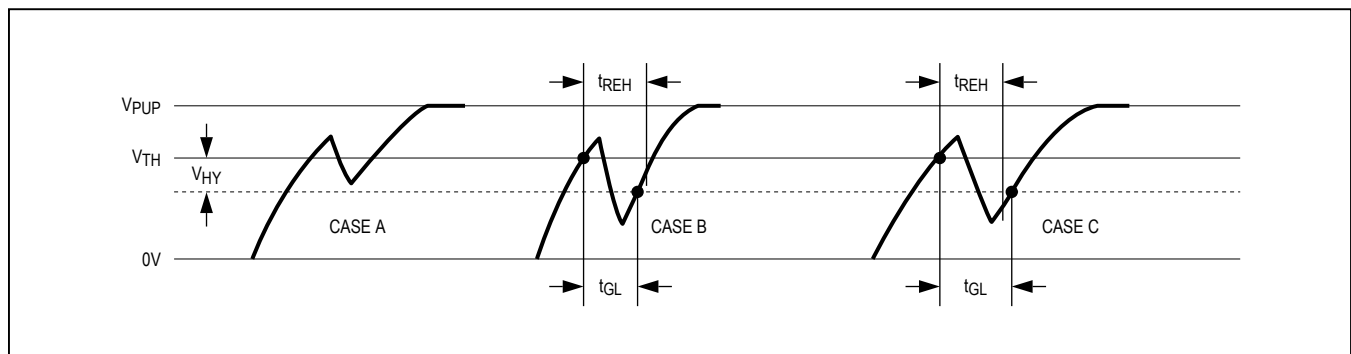

Figure 12. Noise Suppression Scheme
- 2) There is a hysteresis at the low-to-high switching threshold V_{TH} . If a negative glitch crosses V_{TH} but does not go below $V_{TH} - V_{HY}$, it is not recognized (Figure 12, Case A). The hysteresis is effective at any 1-Wire speed.
(Figure 12, Case B, $t_{GL} < t_{REH}$). Deep voltage drops or glitches that appear late after crossing the V_{TH} threshold and extend beyond the t_{REH} window cannot be filtered out and are taken as the beginning of a new time slot (Figure 12, Case C, $t_{GL} \geq t_{REH}$).